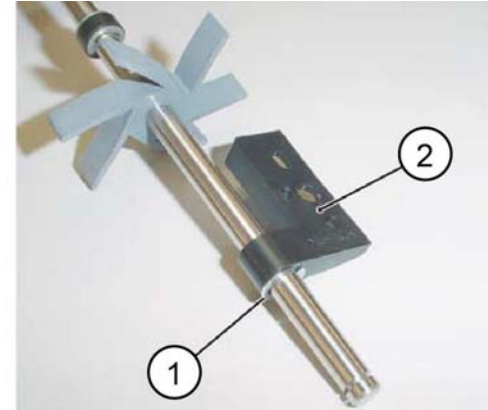

Figure 6 Support bearing removal
8. Remove the support bearing from the main paddle shaft assembly, Figure 6:
- a. Remove the E-clip (1).
- b. Remove the support bearing (2).